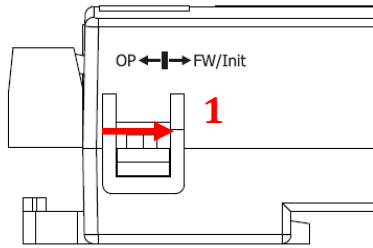

Figure A-1
- (1) Push the DIP switch to the location of “FW/Init” (Figure A-1) and power cycle the IR-712(P)-MTCP.